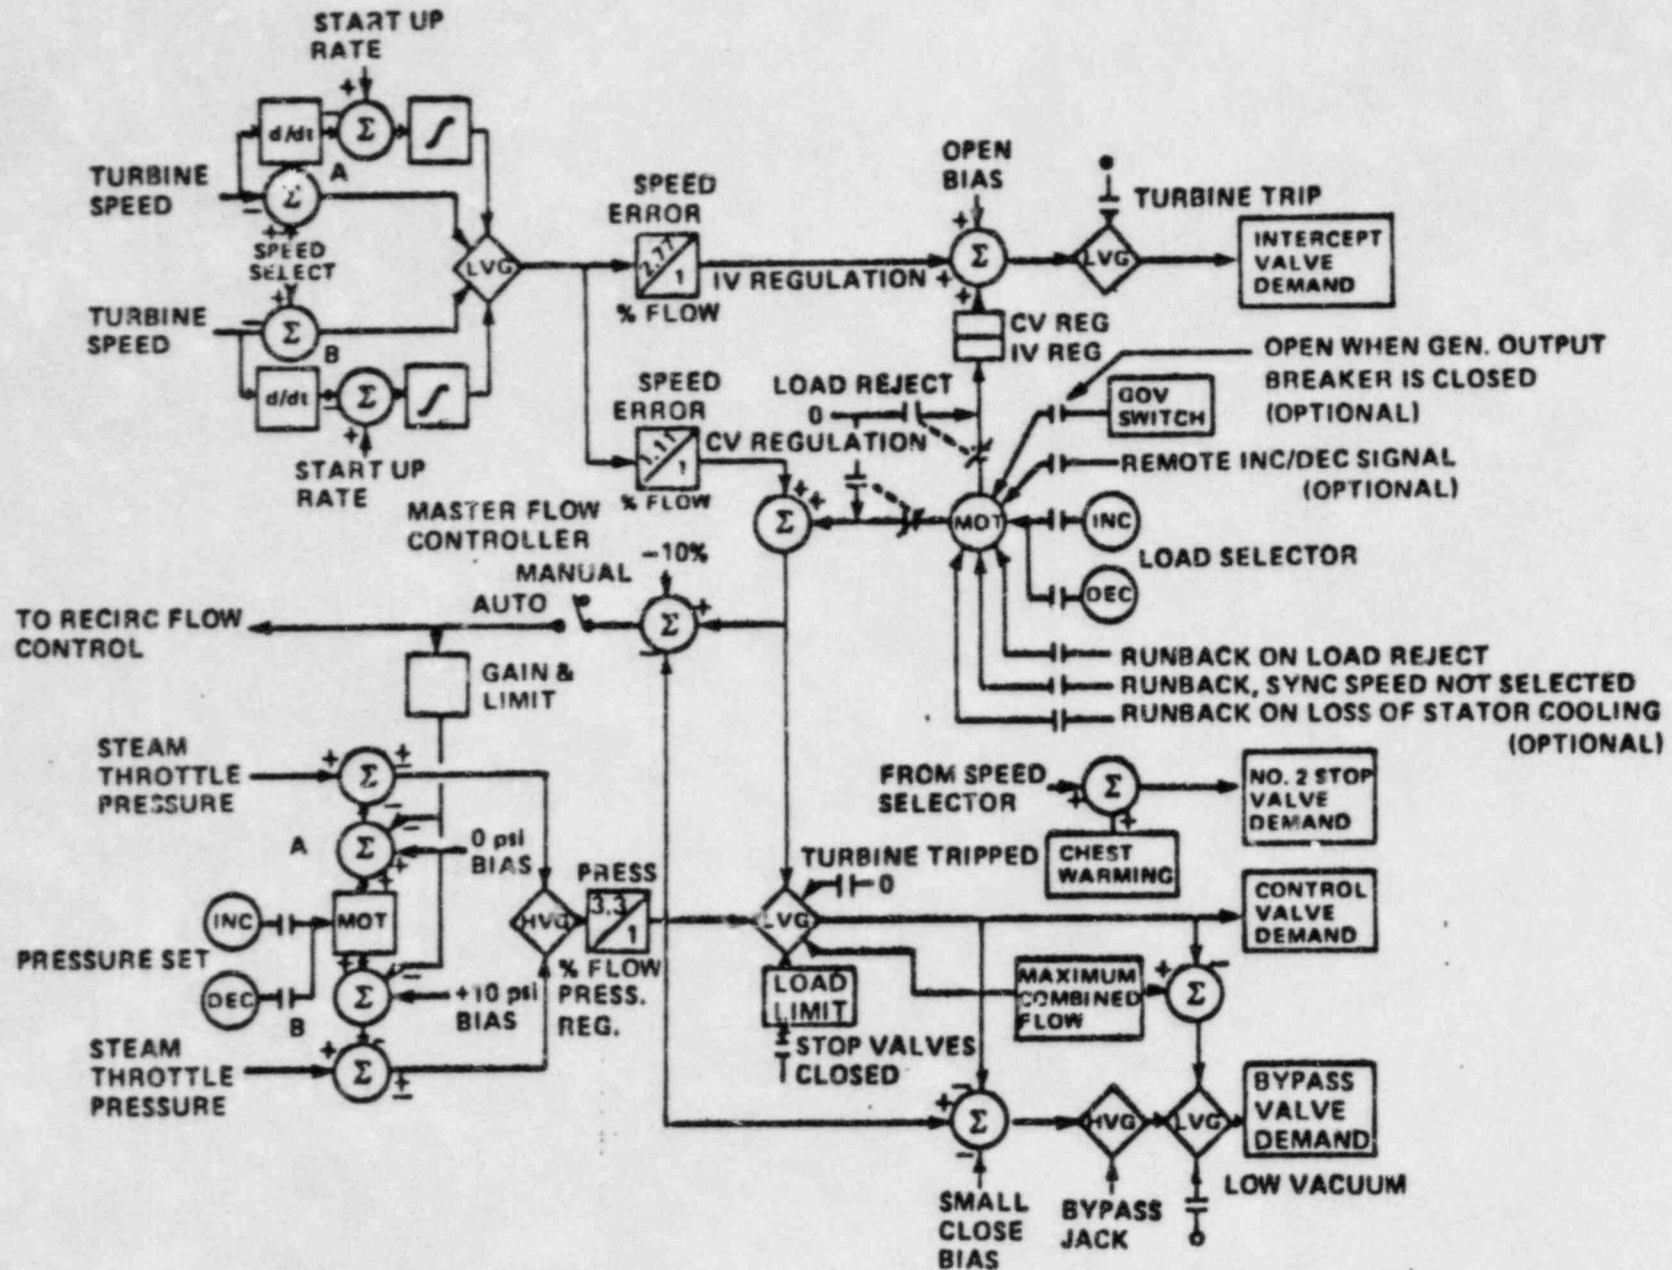

FIGURE 3.3-15 Electro-Hydraulic Control Logic
- d. The RPT trip was added to keep from approaching MCPR limits late in core life. What are two (2) reasons why EOL would be more limiting than BOL? (.5)
- 3.7 a. With the plant operating at 100% power (Unit 1), recirc in Master Manual, an operator inadvertently decreases the "Pressure Set" by 5 psi. What will be the initial response and final status of the following parameters due to this action? Briefly explain. Assume no operator action. See Fig. 3.3-15. Answer on attached handout page.